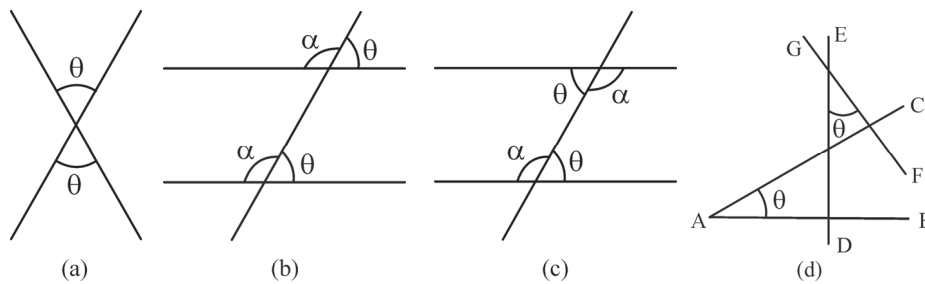

FIGURE 1.3 Some useful theorems of Trigonometry
- If two straight lines are inclined at an angle θ , then **opposite angle** is also θ (Ref Fig 1.3 a)
- If two parallel lines are cut by a straight line, the **corresponding angles** are equal (Ref Fig 1.3 b)
- If two parallel lines are cut by a straight line, **internal opposite angles** are equal, by a combination of the first two rules (Ref Fig 1.3 c)
- If two straight lines AB and AC are inclined at an angle θ , then their **perpendiculars DE and FG are also inclined at the same angle θ** (Ref Fig 1.3 d)